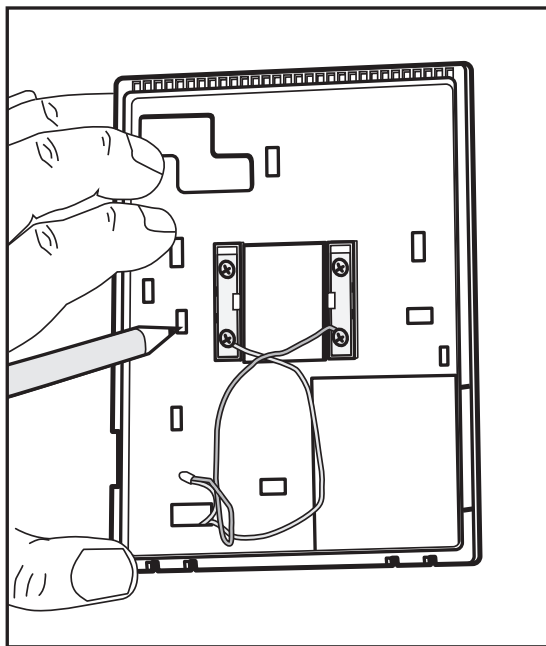

Fig. 3 — Mounting Plate Installation
4. Route wires through large hole in mounting base. Level mounting base against wall (for aesthetic purposes only, the display module does not need to be leveled for proper operation) and mark wall through 2 mounting holes. See Fig. 3.